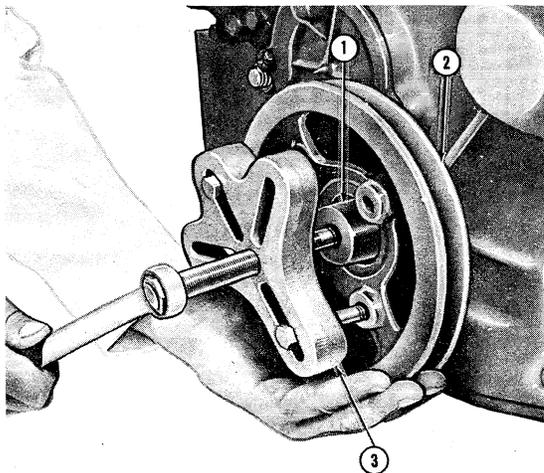

Figure 16
1. **TIMING GEARS:** Remove the fan belt and crankshaft pulley, using tool No. 518 and shaft protector No. 625-1, Figure 16. Remove the alternator bracket.